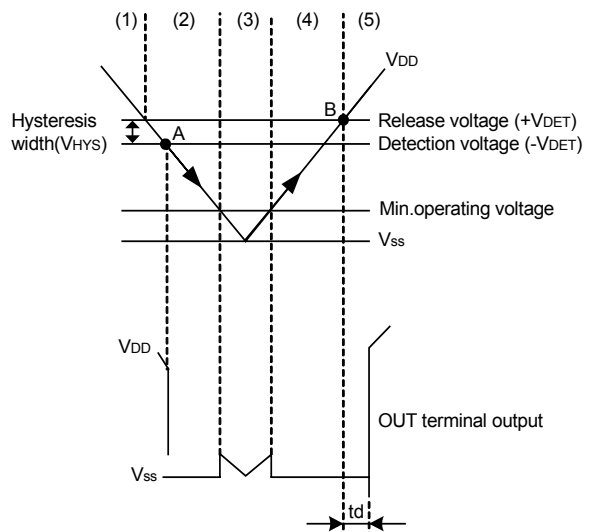

Figure 7
The hysteresis width is the voltage difference between the detection voltage and the release voltage ( $B-A=V_{HYS}$  in Figure 7). By giving a device hysteresis, trouble such as noise at the input is avoided.
- (1) When power supply voltage  $V_{DD}$  is greater than the release voltage  $+V_{DET}$ , the Nch transistor is OFF and the Pch transistor ON, causing  $V_{DD}$  (high) to appear at the output.
- (2) When power supply voltage  $V_{DD}$  goes below  $+V_{DET}$ , the output maintains the power supply voltage level, as long as  $V_{DD}$  remains above the detection voltage  $-V_{DET}$ . When  $V_{DD}$  does fall below  $-V_{DET}$  (A in Figure 7), the Nch transistor goes ON the Pch transistor goes OFF, and  $V_{SS}$  appears at the output.
- (3) When  $V_{DD}$  falls below the minimum operating voltage, the output becomes undefined. However, output will revert to  $V_{DD}$  if a pull-up has been employed.
- (4)  $V_{SS}$  will again be output when  $V_{DD}$  rises above the minimum operating voltage.  $V_{SS}$  will continue to be output even when  $V_{DD}$  surpasses  $-V_{DET}$ , as long as it does not exceed the release voltage  $+V_{DET}$ .
- (5) When  $V_{DD}$  rises above  $+V_{DET}$  (B in Figure 7), the Nch transistor goes OFF the Pch transistor goes ON, and  $V_{DD}$  appears at the output. Then  $V_{DD}$  at the OUT terminal appears with delay time ( $t_d$ ) due to delay circuit.
The delay circuit outputs the signal delayed from the release voltage ( $+V_{DET}$ ) point of the power voltage  $V_{DD}$  rising. The output signal is not delayed when the  $V_{DD}$  goes down the detection voltage ( $-V_{DET}$ ) or less. (See Figure 7).